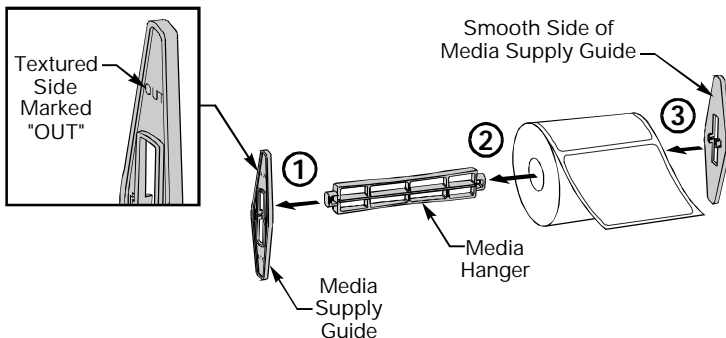

Figure 4
2. Insert one end of the media hanger into one of the media supply guides (refer to Figure 4).
4. Place the second media supply guide onto the other end of the media hanger (refer to Figure 4).